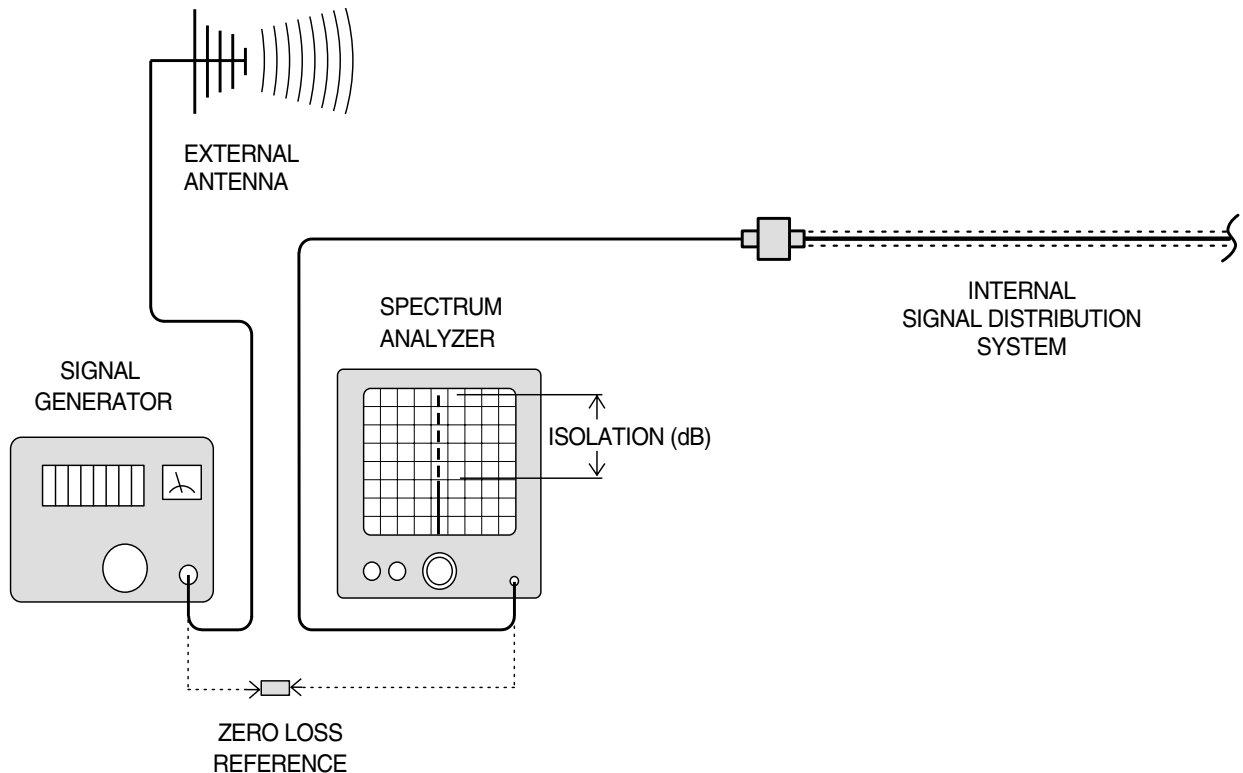

Figure 2: Typical test equipment setup for measuring antenna isolation.
- 3) Connect the test leads of the signal generator and the spectrum analyzer together using a female barrel connector (see figure 2). Observe the signal on the analyzer and adjust the input attenuator of the analyzer for a signal level that just reaches the 0 dBm level at the top of the graticule.
- 4) Referring to figure 2, connect the generator test lead to one side of the signal distribution system (external antenna) and the spectrum analyzer lead to the other (internal distribution system) and observe the signal level. The difference between this observed level and 0 dBm is the isolation between the sections. If the signal is too weak to observe, the spectrum analyzer's bandwidth may have to be narrowed and its input attenuation reduced. Record the isolation value. **The isolation value measured should exceed the amplifier gain figure by at least 15 dB.**